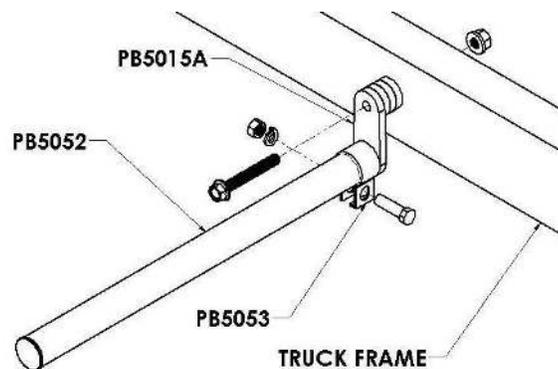

Figure 8
- A. Once the brackets are placed in position with the fender, securely tighten the 5/8" x 4-1/2" bolts that go through the PB5015 steel swivel to attach the swivel securely to the frame (Figure 8). **Recommended torque is 160-170 ft-lbs.**